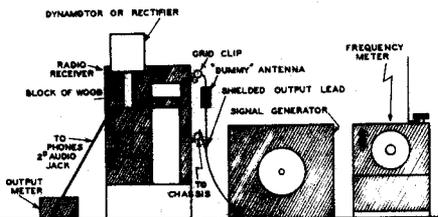

Fig. 5.—Set up of test equipment for aligning, using output meter. Frequency Meter SCR-211-(\*) is used to check accuracy of calibration of signal generator.
1. Clip the dummy antenna from the signal generator (see fig. 5) to the grid cap of the 1st detector tube without removing the clip now on it.